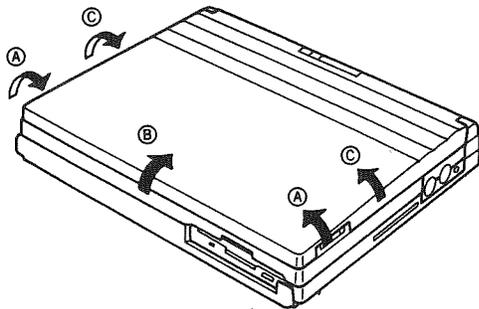

Figure 28
Then, gradually pull up the upper display case from the lower display case in the direction of arrows **A** as shown in Figure 28 and 28A.
- (3) Next, gradually pull up the upper case from the lower case in the direction of arrows **B** and **C** as shown in Figure 28.